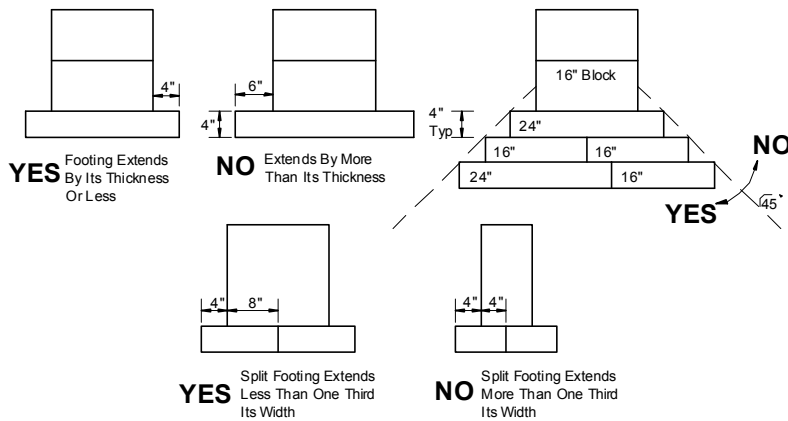

Figure 12. Maximum footing extensions
- Design footings with a footing extension (projection beyond the base of the pier) no greater than the footing thickness (**Figure 12**). Increase footing thickness if necessary.